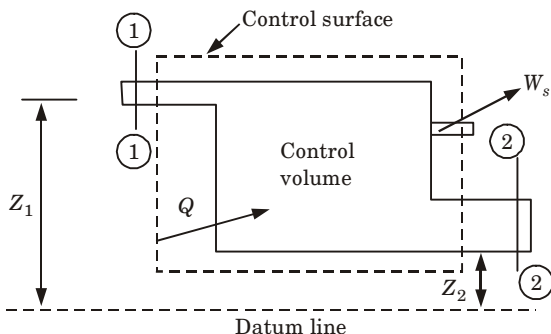

Fig. 1.29.1.
1. Let's consider the flow of a fluid through a control volume as shown in Fig. 1.29.1. In the time interval "*dt*", there occurs a flow (or flux) of mass and energy into the control volume.